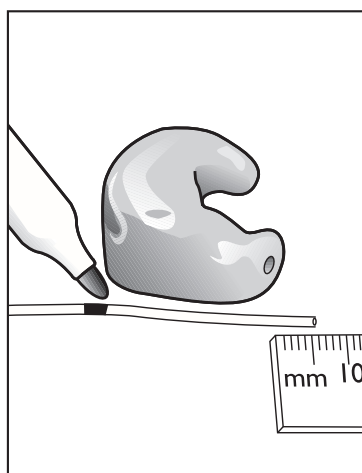

Figure 6.2.3A—Marking the probe tube
3. Mark the probe tube where it meets the outside surface of the earmold with a marking pen. See Figure 6.2.3A.